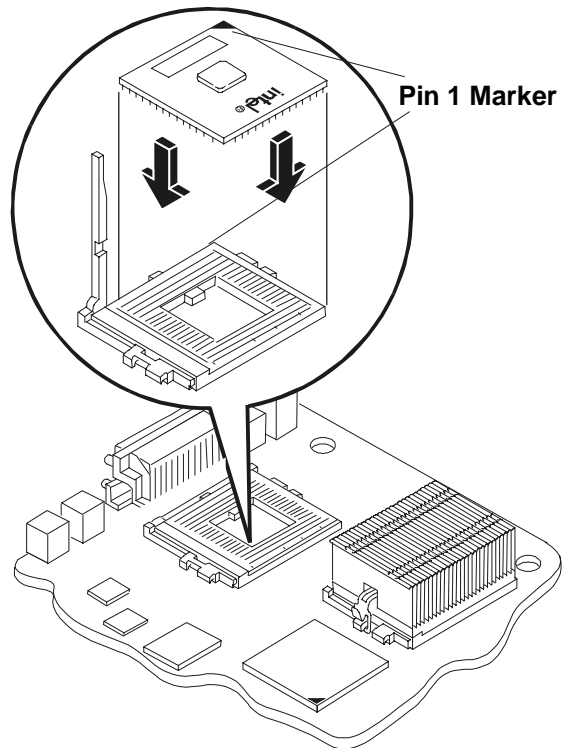

Figure 6-3. Installing the Processor on the System Board
8. Align the second processor over the empty processor socket, as shown in Figure 6-3.